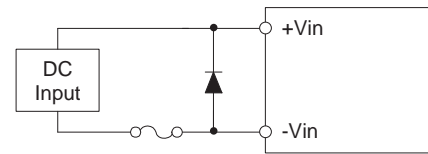

Fig.3.4 Reverse input voltage protection
(4) Reverse input voltage protection
■Avoid the reverse polarity input voltage. It will damage the unit. It is possible to protect the unit from the reverse input voltage by installing an external diode as shown in Fig.3.4.